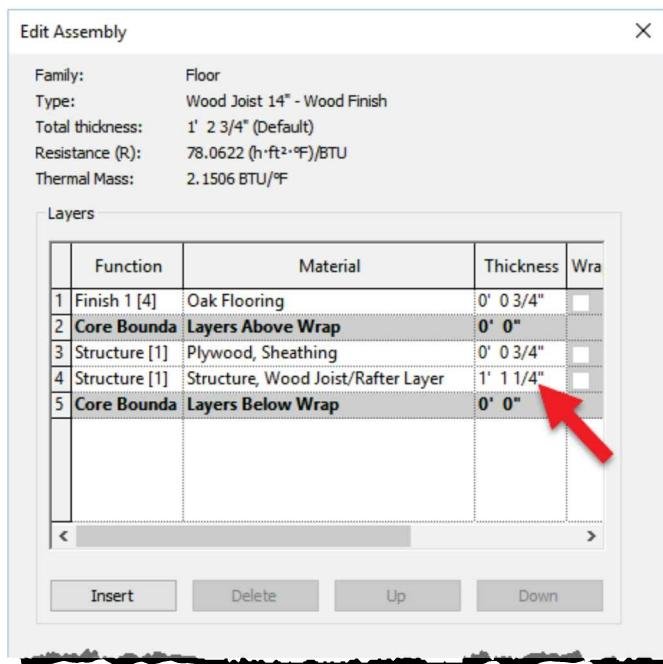

FIGURE 9-1.10 Floor properties
29. Change the *Structure* settings per the following image (Figure 9-1.10).
31. Select the exterior walls indicated in Figure 9-1.10. Select the exterior side of the wall; use the flip control arrows if needed.